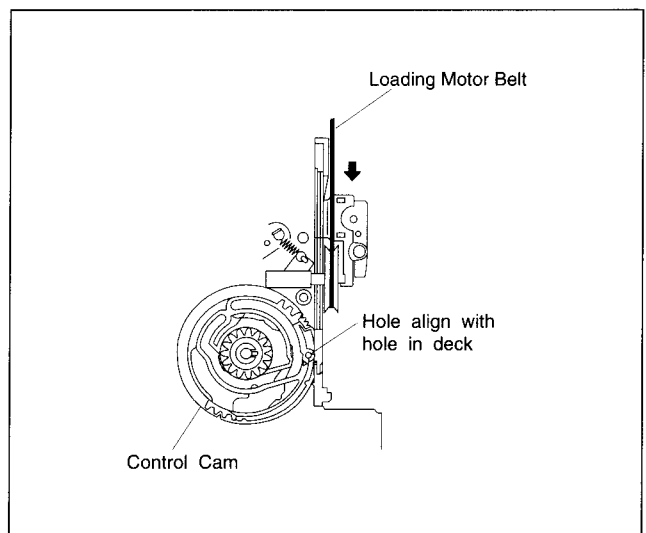

Fig. 1-4-1
- (1) Turn the loading motor belt by hand.
- (2) Confirm that the hole of the control cam are aligned to the deck hole as shown in Fig.1-4-1.